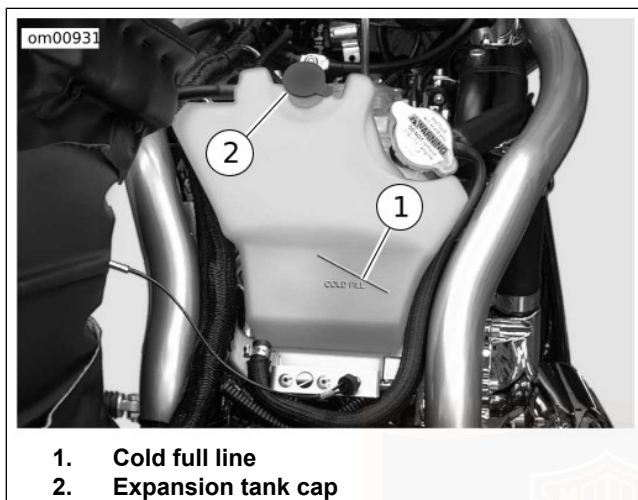

Figure 33. Coolant Expansion Tank: VRSC Models
4. See Figure 33. Check coolant level in expansion tank with coolant cold and motorcycle on jiffy stand.